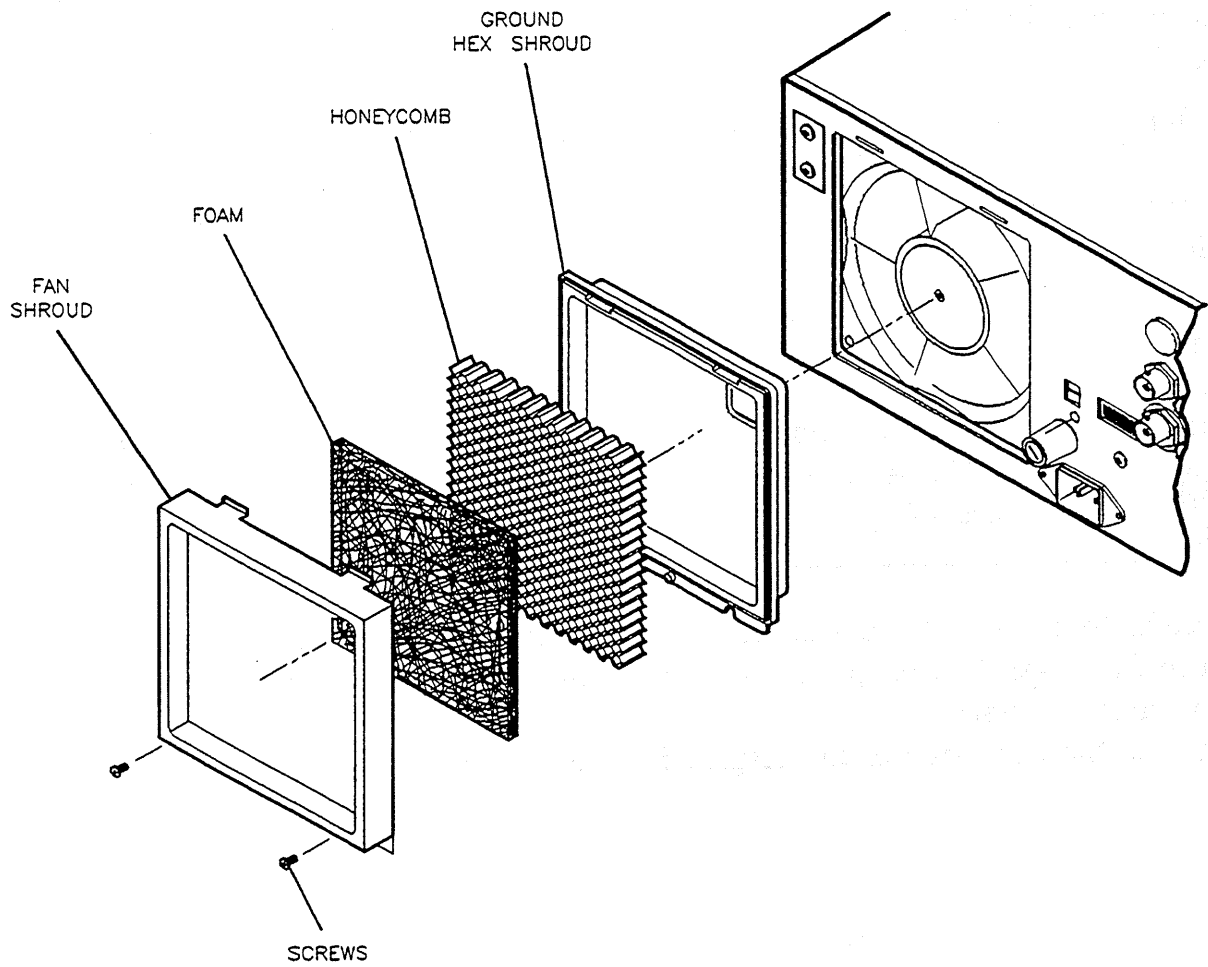

Figure 10-1. Removing the Fan Filter
3. Remove the two screws holding the fan shroud to the rear panel (see Figure 10-1).